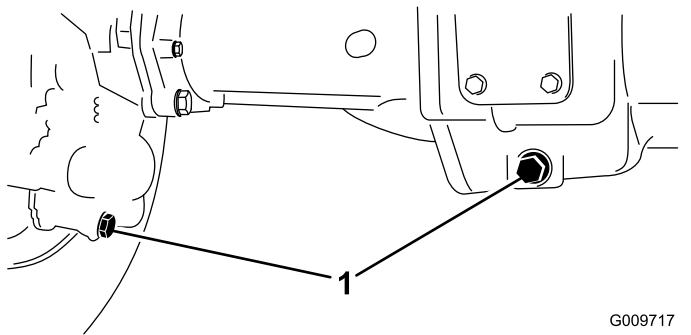

Figure 59
2. Clean the area around the 3 drain plugs—1 on each end and 1 in the center (Figure 59).